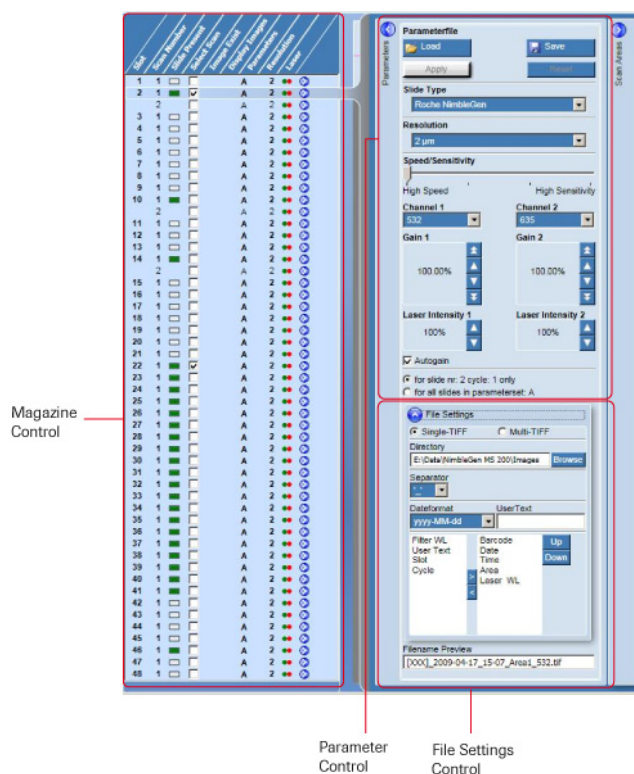
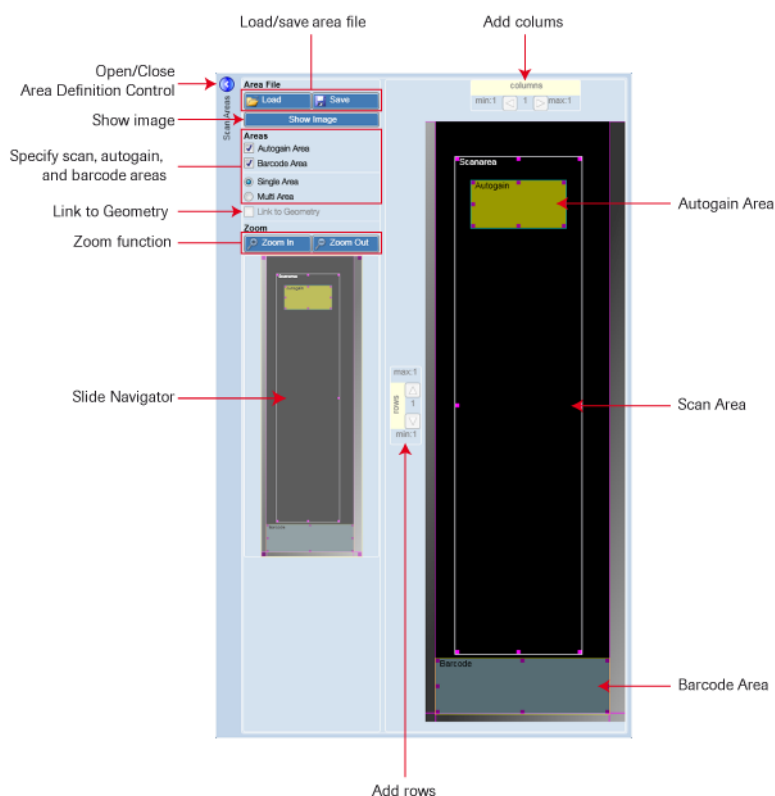

Figure 15: Magazine Control, Parameter Control, and File Setting Control
Figure 16: Components of the Area Definition Control
3. Review the Magazine Control (Figure 15) in the Data Collection Software. Ensure that a green box appears in the *Slide Present* field for each slide loaded into the slide magazine.
1. Use the Parameter Control (Figure 15) to set the parameters to use when scanning:
2. Use the File Settings Control (Figure 15) to specify image file settings:
- a. To open the File Settings Control if not displayed, go to the row of a slide to scan in the Magazine Control and click its **Open Parameter Control** button (🔒) (Figure 15). In the Parameter Control, click the **Open/Close File Settings** button (🔒) to open the File Settings Control.
- f. (Optional) To save the file settings to a file, click **Save** in the Parameters Control (Figure 15).
3. Use the Area Definition Control (Figure 16; denoted as *Scan Areas* in the software interface) to set scan, barcode, and autogain areas.
- a. To open the Area Definition Control if not displayed, in the Parameter Control, click the **Open/Close Area Definition Control** button (🔒) (shown on the right side of Figure 15 above the *Scan Areas* label in the software interface). Figure 16 shows the components of the Area Definition Control.
- *Autogain area* checkbox, if the Autogain checkbox was selected in the Parameter Control (Figure 15)
1. Once the scan of a slide is completed, a blue **Displays Images** button () appears in the *Display Images* field of the Magazine Control (Figure 15). Move the mouse pointer over the button to display the directory location and file name of the acquired image. Click the blue **Displays Images** button () to display the image (both images) in the Image View.